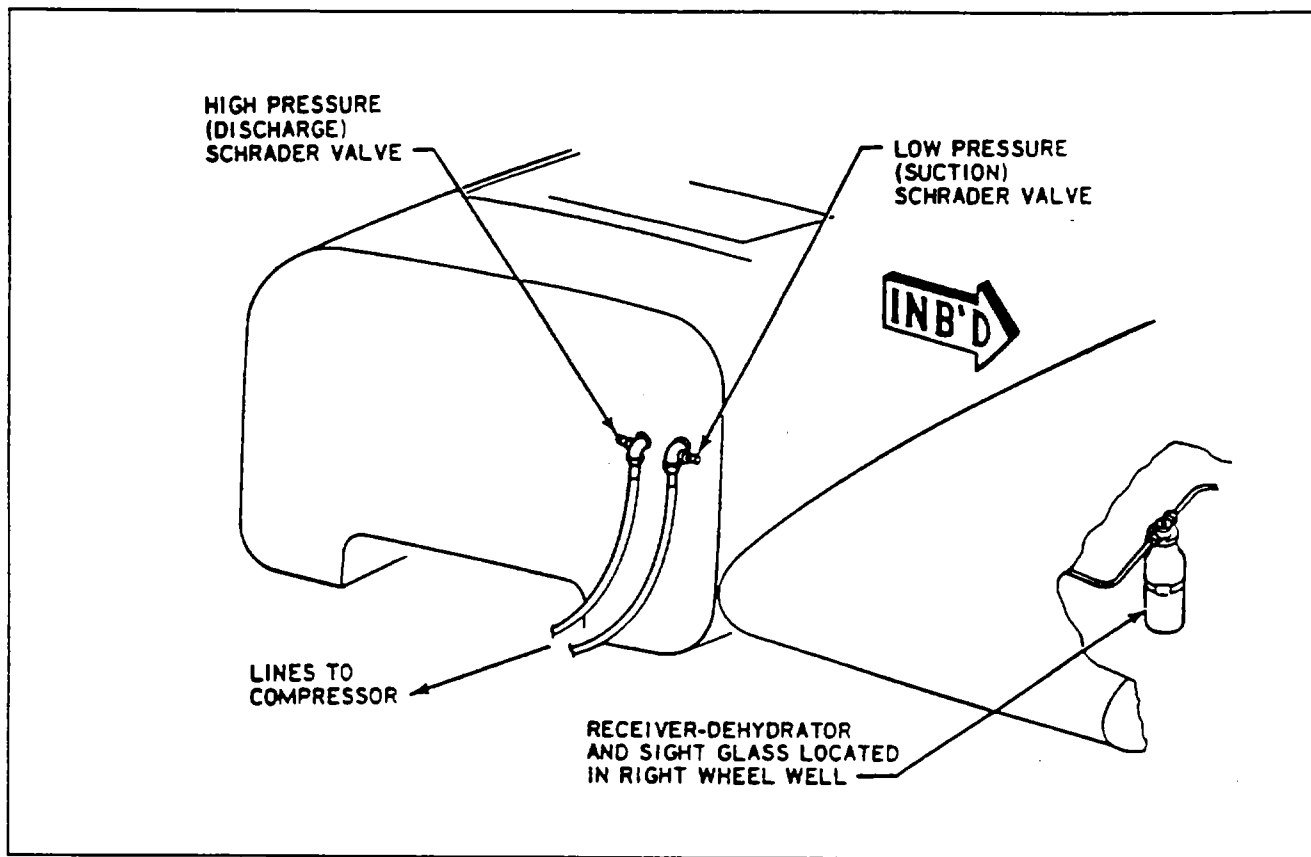

Figure 21-27. Service Points (Air Conditioning System)
- B. Connect red high-pressure charging line to high pressure Schrader valve at the fire wall fitting of the right nacelle. (Refer to Figures 21-27 and 21-29.)
- A. Connect red high pressure hose to the fire wall fitting high pressure Schrader valve and the blue low pressure hose to the fire wall fitting low pressure Schrader valve. (Refer to Figures 21-27 and 21-29.)
- A. Close both valves on a standard gauge set. Connect the red high pressure hose from the gauge set to the high pressure Schrader valve on the fire wall fitting. Connect the blue low pressure hose from the gauge set to the low pressure Schrader valve on the fire wall fitting. (Refer to Figures 21-27 and 21-29.)